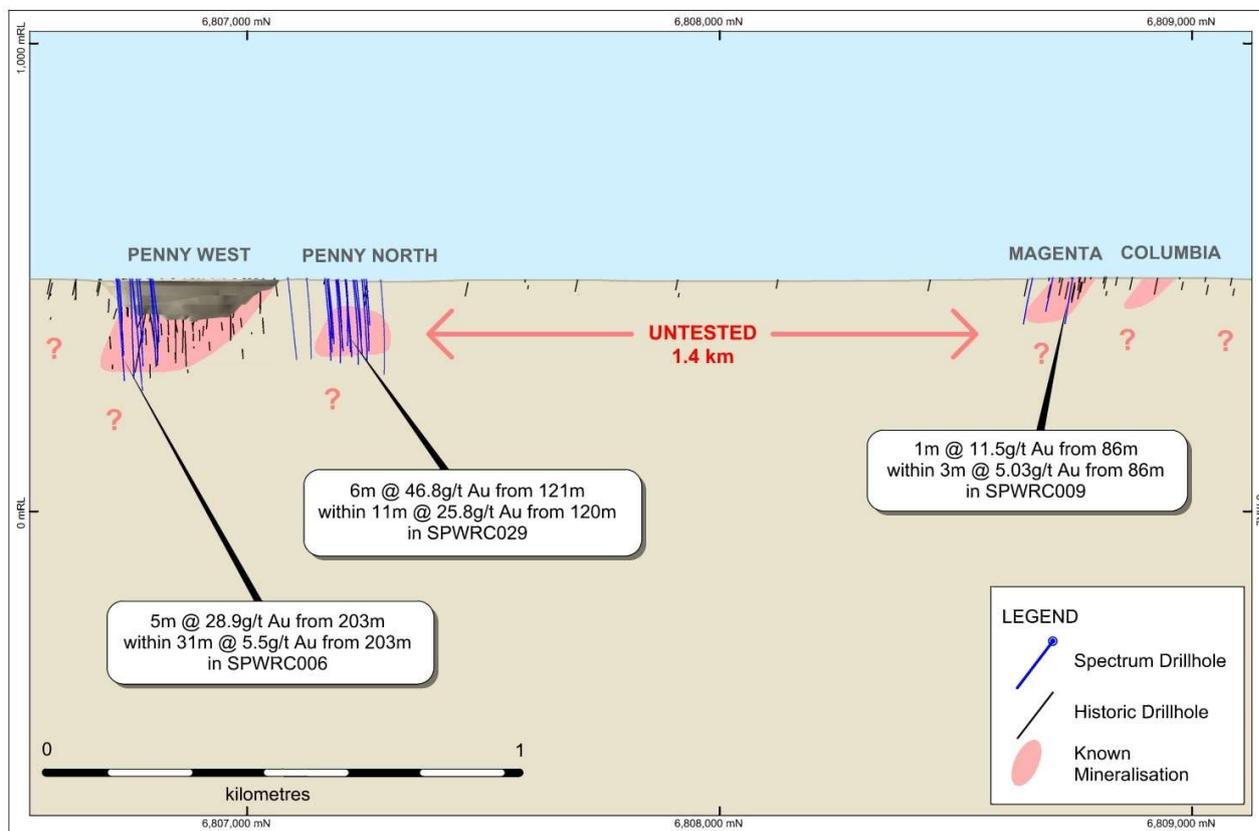

Figure 2. Long projection from Penny West through to Columbia-Magenta showing selected high-grade intercepts and the 'gap zone' between Penny North and Magenta
- The above results open up another area of focus for Spectrum at Magenta and also shows that high grade gold mineralisation exists at either end of a 1.4km long ‘gap zone’ that has no RC drilling whatsoever (See Figure 2).
Figure 2 shows the extent of the drilling in the 'gap zone' between Penny North and Magenta. Several shallow RAB lines to an average depth of between 40m and 50m tested the cover sequence and oxidized bedrock at approximately 200m line spacings. Low level gold intersections on several of these lines shows that the mineralised trend continues northward from the Penny West pit but no deep follow-up drilling was ever conducted into the fresh rock within the gap zone. The discovery of Penny North under a historical 1m intersection demonstrates the gold potential that the gap zone holds.